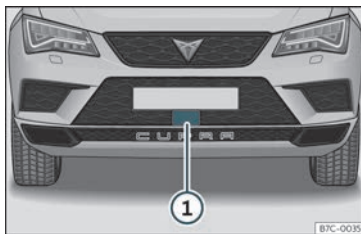

Fig. 211 On the front bumper: radar sensors.
A radar sensor is installed on the front bumper to determine the traffic situation >>> Fig. 211 ①.